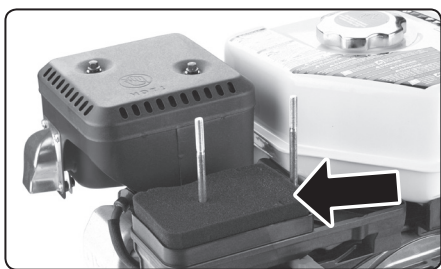

Fig. 7, illustrative picture of the air filter location
- **To access the air filter, screw off the wing nuts securing the air filter cover in place and then remove the cover (fig. 7).**